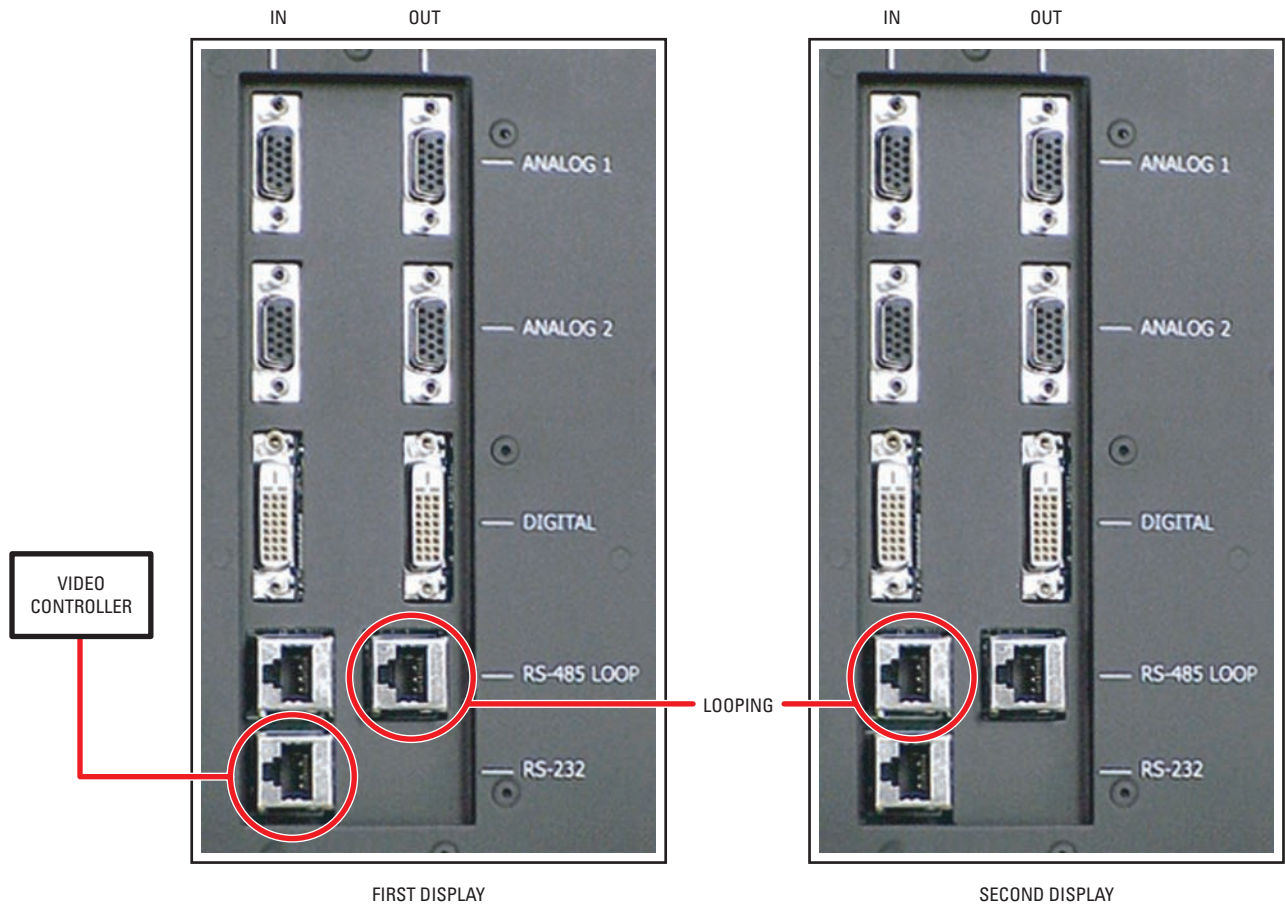

Figure 7. RS-232 and RS-485 Connections
1. Using a straight-through computer serial cable, connect the RS-232 input of the stand-alone unit or the first unit in the wall to the serial out port of the external control device, such as a video controller. Refer to Figure 7.
2. Connect this first display's RS-485 Out to the next display's RS-485 In. Refer to Figure 7.